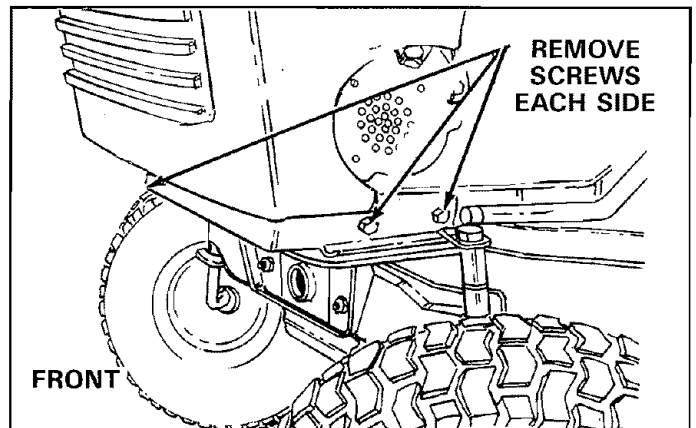
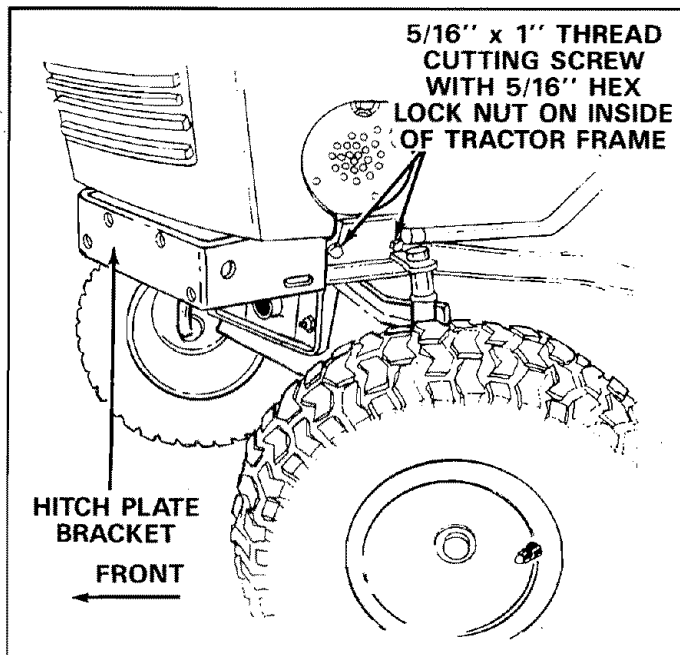

FIGURE 4
FIGURE 5
1. Remove two screws (see figure 4 from each side side of tractor frame. Assemble hitch plate bracket to each side of tractor frame using new longer 5/16-18 x 1" thread cutting bolt (replacing screws previously removed) and tighten securely with 5/16-18 hex lock nuts. See figure 5.